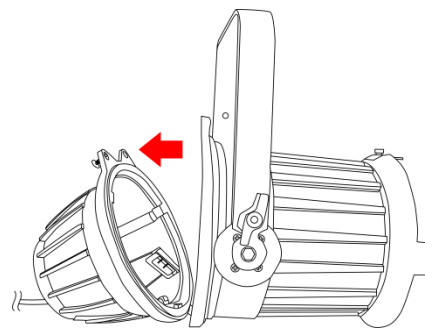

Fig. 04
- 03) Open the lamp housing on the bottom of the device (Fig.04).